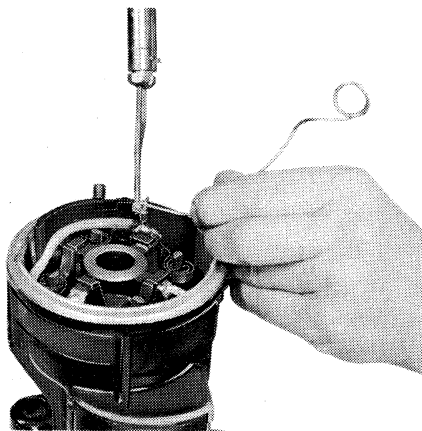
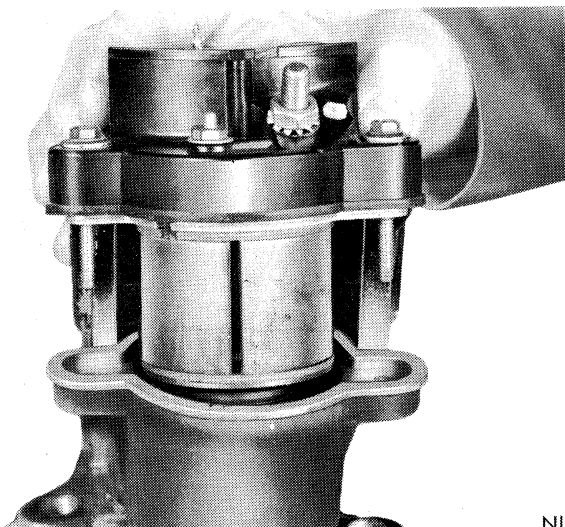

Fig. 32—Soldering Solenoid Lead to Brush Terminal
Fig. 33—Installing Solenoid and Brush Plate Assembly
(13) Wrap solenoid lead wire tightly around brush terminal post as shown in (Fig. 32) and solder securely with a high temperature resin core solder and resin flux.
(14) Install brush holder to solenoid attaching screws.
(15) Carefully enter solenoid coil and brush plate assembly into bore of gear housing and position brush plate assembly into starter gear housing (Fig. 33) and install housing attaching nuts. Tighten securely.